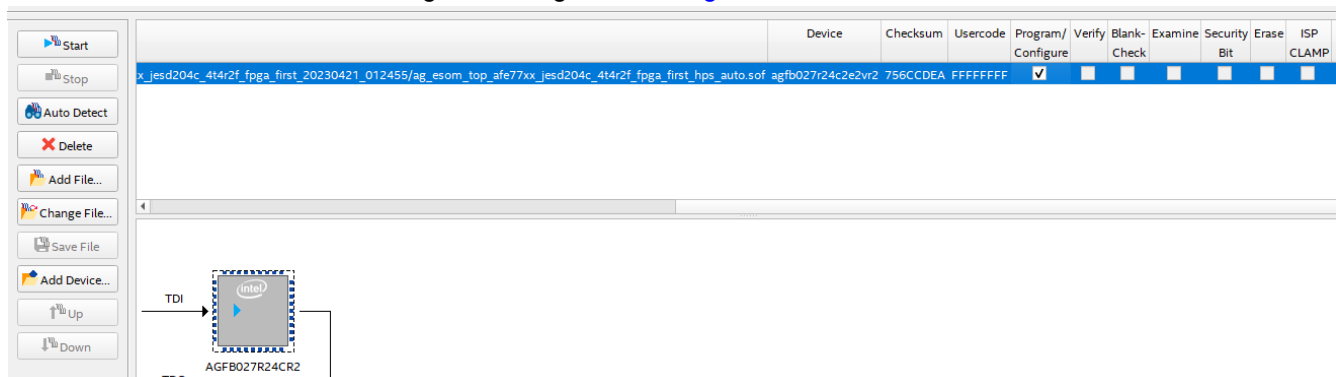

Figure 4-11. Program/Configure
17. Next, check the box under "Program/Configure", see Figure 4-11.